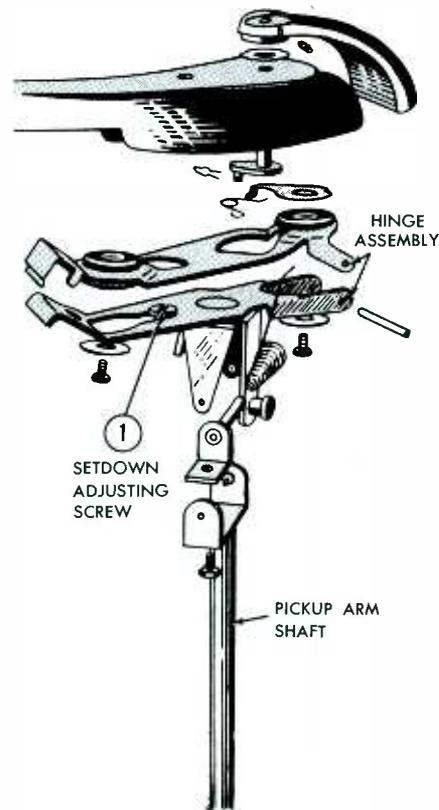

Fig. 6. Tone Arm and Hinge Assembly of the Webster-Chicago 356.
Normally the set-down point is adjusted by turning the eccentric screw (1) in the hinge assembly. See Fig. 6. This adjusting screw is accessible through the top of the tone arm. Turn this screw clockwise to index the needle in toward the spindle and counterclockwise to index it away from the spindle.
have pointed ends which fit into the off-center holes in the pickup-arm shaft (2) shown in Fig. 6. Alternately loosen one screw and tighten the other until the needle rests above the record lead-in groove at the desired point. Be sure that both set screws are tight when this adjustment is completed.
8. Check the adjustment by placing a stack of records on the spindle, by running the changer through several change cycles, and by observing the landing of the needle. Any minor adjustments may be made by the eccentric adjusting screw (1) of Fig. 6.
9. Turn the record shelf to 12 inches and check the needle drop on a 12-inch record. If any adjustment is necessary, make it with the eccentric screw (1) of Fig. 6.